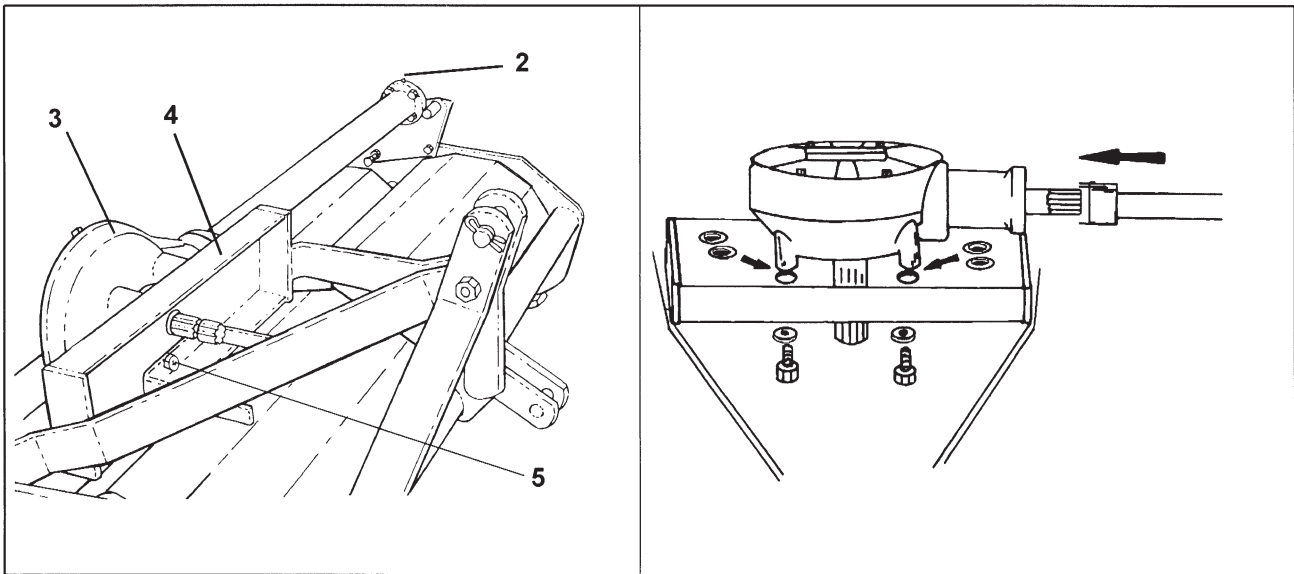

FIGURE 3
GEARBOX AND EXTENSION SHAFT ASSEMBLY. FIGURE 3.
1. Remove existing nuts and lockwashers (item 2) from bearing housing.
2. Slide bearing housing bolts (item 2) into proper holes in outboard bearing plate.
3. Attach gearbox (item 3) to gearbox mounting frame (Item 4). Secure with (4) 5/8" x 1-1/2" bolts and lockwashers. Torque to 170 ft-lbs.
IMPORTANT: If extension shaft does not line-up with Gearbox, it may be necessary to shim gearbox mounting lugs. To accomplish this, insert one gearbox retaining bolt (item 5, Figure 3) thru the mount plate and into the gearbox housing. Do not tighten this bolt (it should have at least 1/4" free threads to move in and out). Assemble the gearbox, shaft, shaft extension tube and the bearing to the bearing retainer plate mounted on the side sheet. Tighten all fasteners except the one bolt in the gearbox mounting plate. Check the distance between the gearbox mounting lugs and the mount plate. If required, insert shims from shim kit (p/n 000552) between gearbox mounting lugs and mounting plate to insure the gearbox pulls up evenly on the mounting plate.